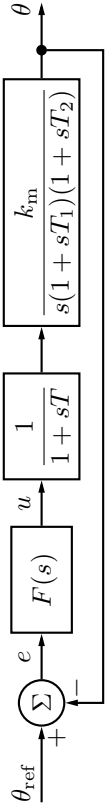

Figure 5.6a
5.6 A DC-servo is described by the block diagram in Figure 5.6a, where  $T_1 = 50$  ms is a mechanical time constant,  $k_m = 10$  is a proportional constant,  $T_2 = 25$  ms is an electrical time constant,  $k_m = 10$  is an amplifier time constant. The system is tested with  $F(s) = 1$  and we find that the dynamic properties are satisfactory but that the system is somewhat too slow. Find an  $F(s)$  so that the closed loop system is twice as fast as for  $F(s) = 1$ , without increasing the overshoot.  $F(s)$  should also give a closed loop system which fulfills the following accuracy demands: